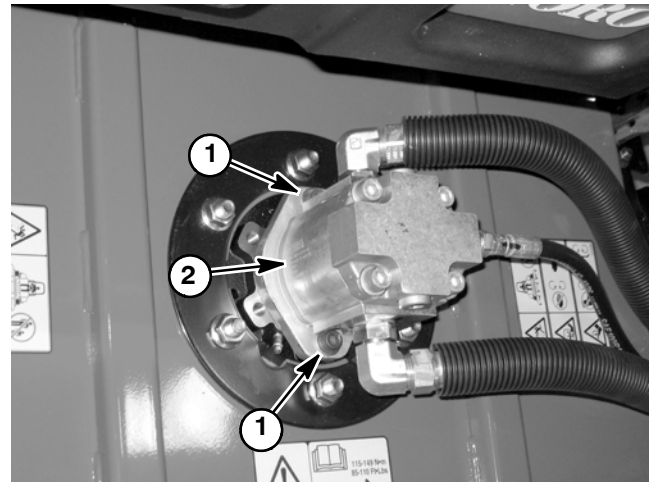

Figure 5
2. Remove two (2) socket head screws and flat washers that secure hydraulic motor to the cutting deck (Fig. 5). Remove hydraulic motor and O-ring from deck.
7. If necessary, press drive studs (item 7) from spindle assembly.